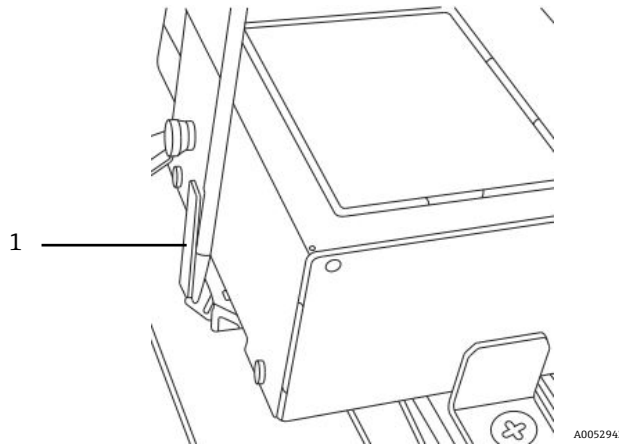

Figure 77. Inserting screwdriver into clip extension (1)
4. Insert a flathead screwdriver in the clip extension at the top of the electro-optical module as shown in Figure 77.